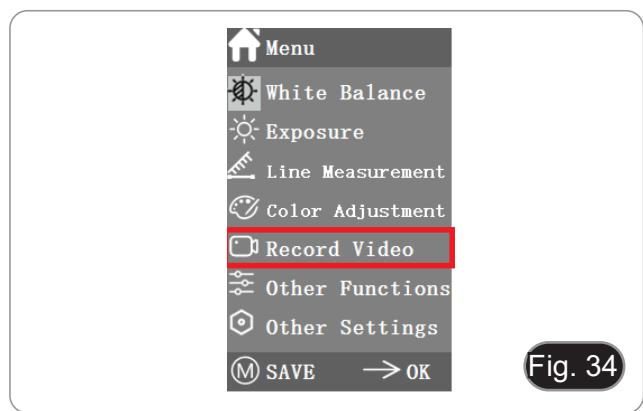

Fig. 34
- Press M button to show menu in the screen (Fig. 34) and choose Record Video option by pressing ↑ or ↓.